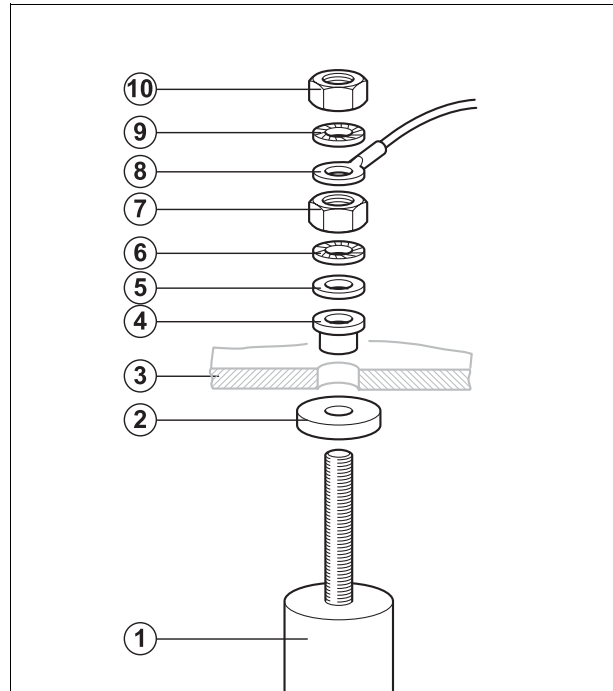

Fig. 22 Replacement magnesium anode rod.
- Fit the new magnesium anode together with all small parts supplied with it, as shown in Fig. 22.